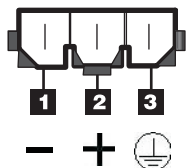

Figure 3-58. DC power connector - pin positions
3. Connect the dc power cable to the power supply. See Figure 3-58 for the dc power supply connector PIN positions.